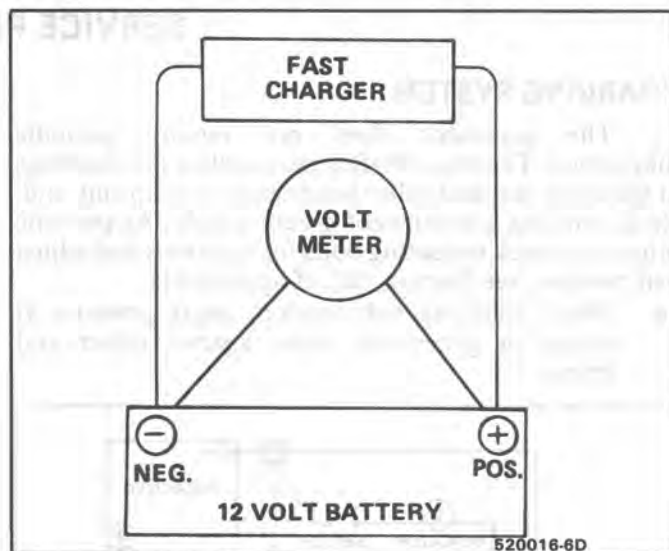

Fig. 1D On-Car Voltage Regulator Test - SI
1. Connect a fast charger and a voltmeter to the battery as shown in Fig. 1D.